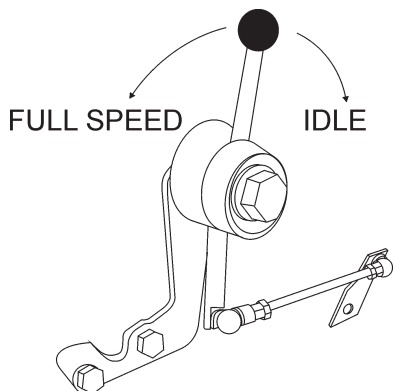

Figure 10. Speed Control Lever
1. Set the **Speed Control Lever** (Figure 10) to a position half way between start and stop.